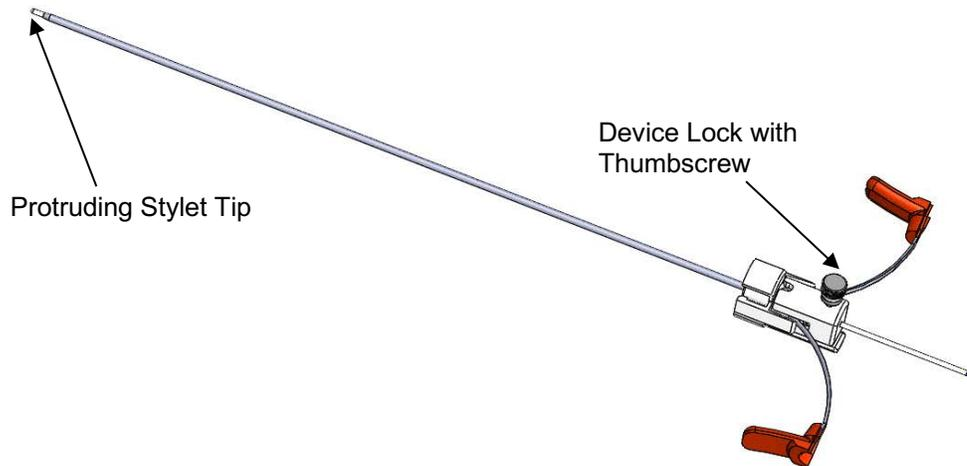

Figure 205: Dock and Lock Assembled to Stylet and Sheath
16. Insert the Stylet into the Sheath. The distal end of the Stylet should protrude between one (1) and five (5) mm from the end of the Sheath. If it is not protruding, pull on both ends of the hub, peel the Sheath until the distal end of the Stylet protrudes between one (1) and five (5) mm. A slight resistance should be felt.
17. Insert the Stylet into Dock until Device Lock mates and snap locks to Dock. **See Figure 205.**